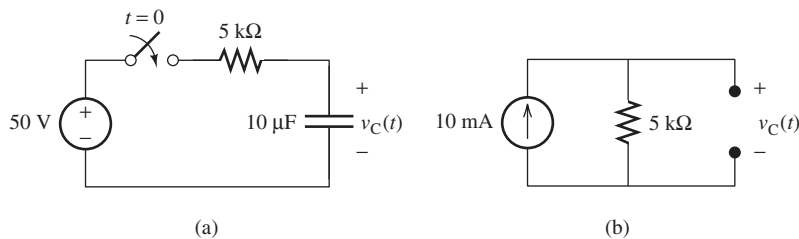

FIGURE 5.12 (a) The reduced circuit for Example 5.3; (b) the equivalent circuit as $t \rightarrow \infty$.
Method 2: Another approach is to find the Thévenin equivalent circuit for the given circuit. Figure 5.12(a) shows the desired circuit.
- c. When $t \rightarrow \infty$, the capacitor is fully charged. In this case, the capacitor will be equivalent to an open circuit as shown in Figure 5.12(b).